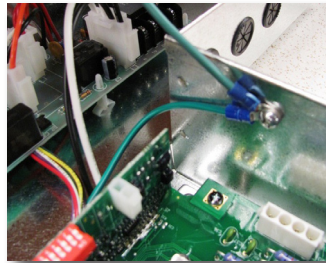

Fig. 3a
3. Disconnect motor ground wire from L-Shape box. Using existing machine bolt, connect motor ground wire to provided ground wire extension. (Figs. 3a-3c)